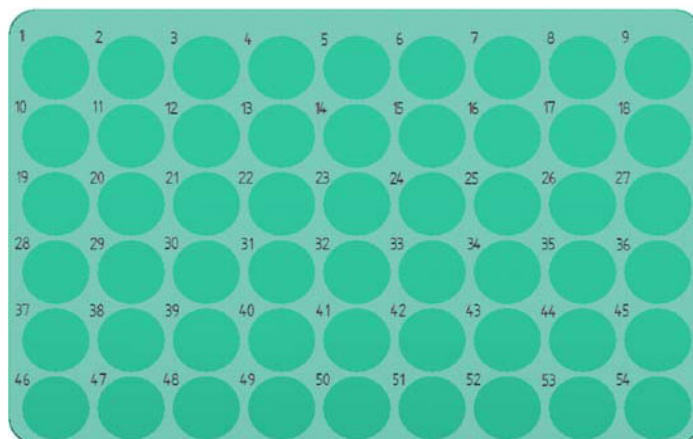

Fig. 43: Positions on the sample tray (here VT54)
1. Verify that vials are available in the corner positions of the tray (that is positions 1, 9, and 54 on a sample tray with 54 positions (→ Fig. 43, page 68)).
1. Verify that a vial is available at position 1 on a sample tray with 54 positions (→ Fig. 43, page 68).